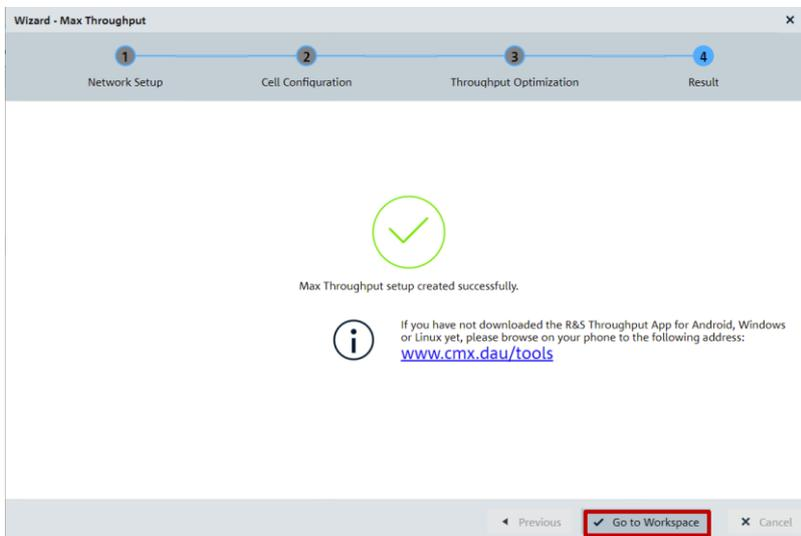

Figure 51 Wizard step 4 - Successful
**Step 4 - Result (see Figure 51)**
Now, step 4 of the Wizard opens a result page as shown in Figure 51. Press 'Go to Workspace' will exit the Wizard and enter the created 'Max. Throughput' workspace in CMSquares (see details in 3.4.2).